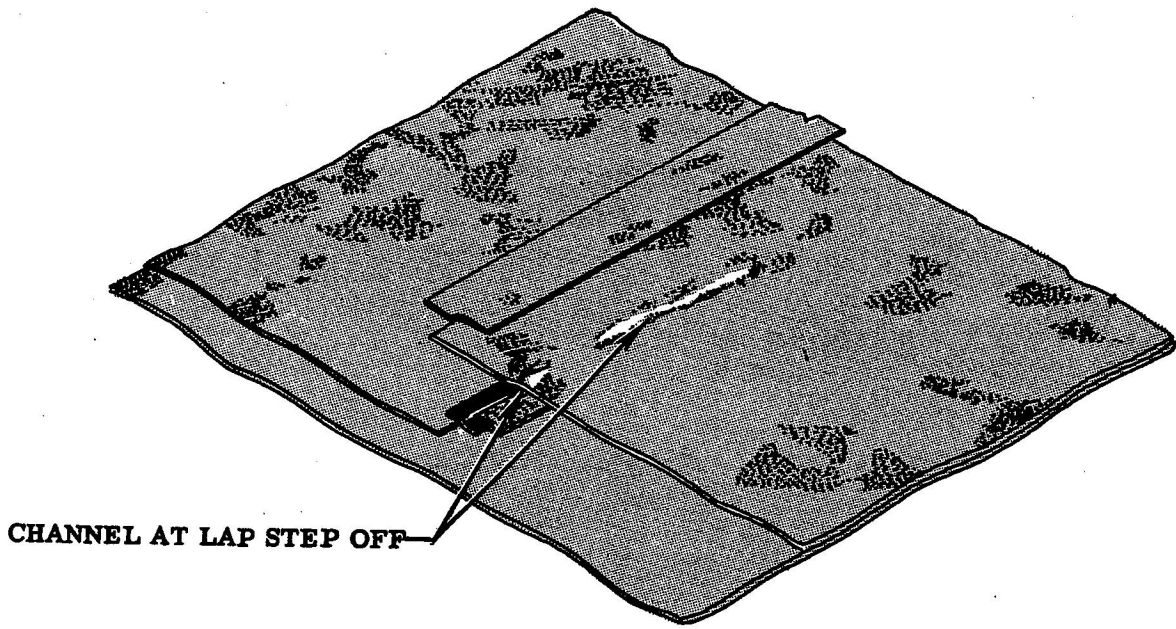

Figure 5
(13) Channels at tapered construction step-off area or edge of lap splices of any ply.	1/4-inch maximum width entire length of lap (see figure 5).